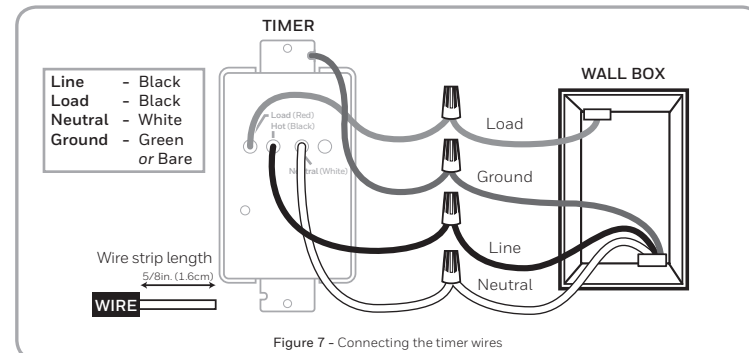

Figure 7 - Connecting the timer wires
4. Connect the timer to the wall box wires with included wire nutes as shown in Figure 7.